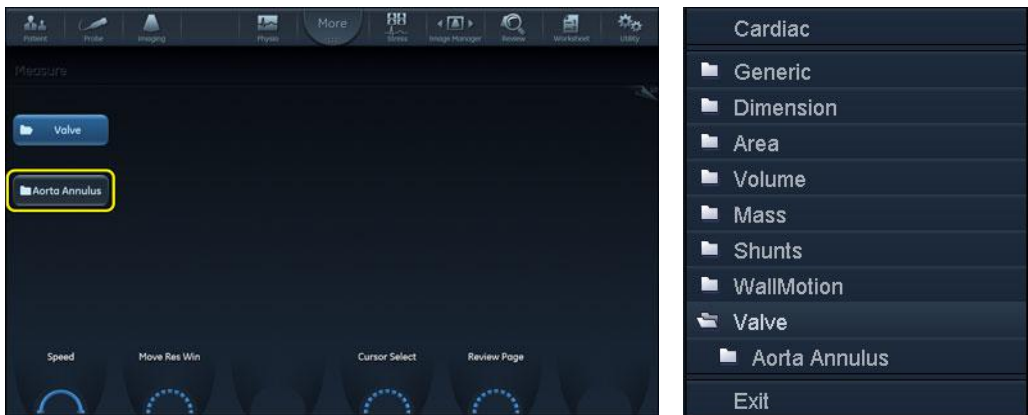

Figure 8-59. Selection of the 4D Auto AVQ tool
3. Select **Valve > 4D Auto AVQ** (Figure 8-59).